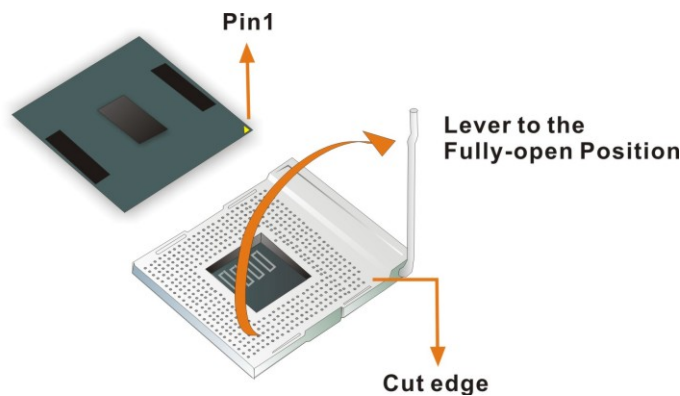

Figure 5-1: Install the CPU
- Step 2: Open the CPU socket lever.** Disengage the load lever by pressing the lever down and slightly outward to clear the retention tab. Rotate the load lever to a fully open position. See **Figure 5-1**.
- Step 3: Orientate the CPU properly.** Make sure the IHS (Integrated Heat Sink) side is facing upward. See **Figure 5-1**.
- Step 4: Correctly position the CPU.** Match the Pin 1 mark with the cut edge on the CPU socket. See **Figure 5-1**.